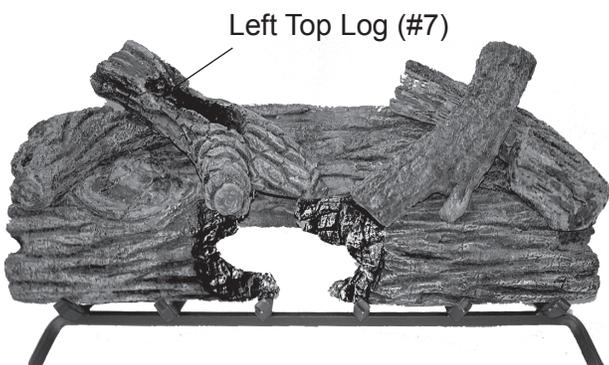

Figure 38 - Installing Left Top Log (#7)
- Install left top log #7 as shown. See Figure 38.